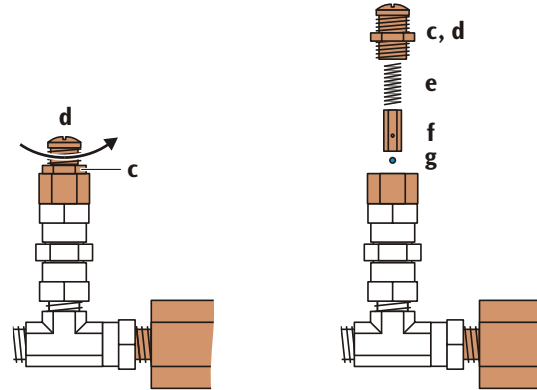

Fig. 7: Dismantling the safety valve
- Loosen the counter nut (14 mm) and use a screwdriver to remove the valve cap (see Fig. 7).